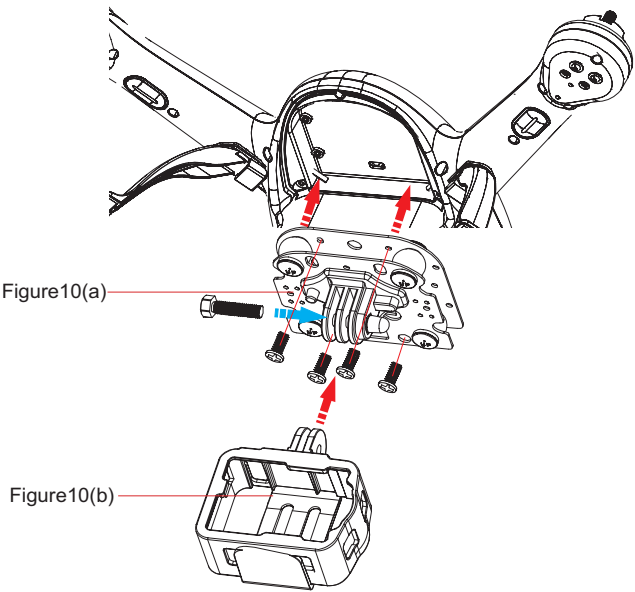

Figure10
- (1) Install the cage seat onto the quadcopter and lock the screws, as shown in Fig. 10 (a).
- (2) Install the camera frame onto the cage seat and lock the screws, as shown in Fig. 10 (b).